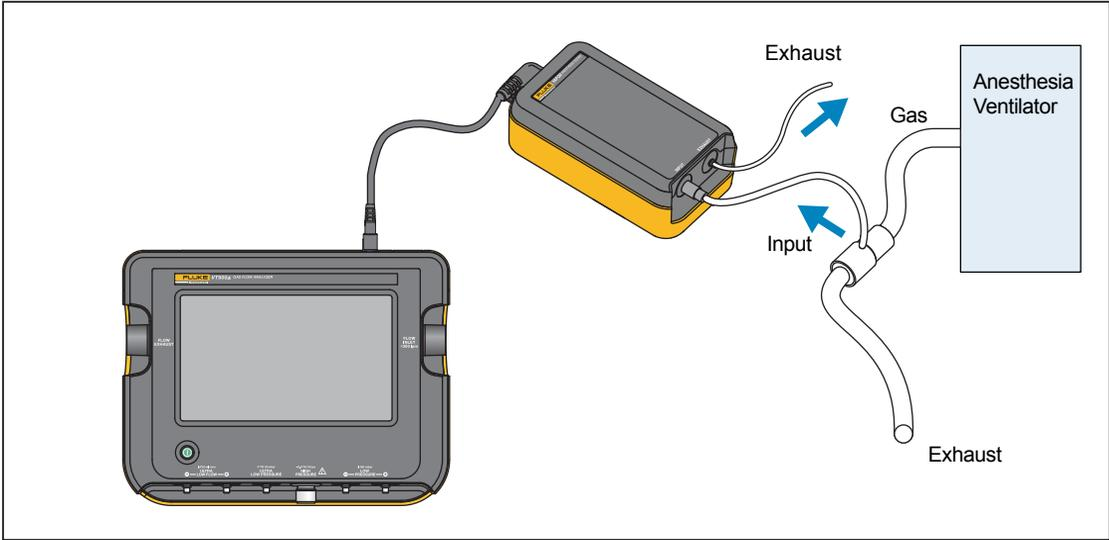

Figure 4. Anesthesia Gas Connections
VAPOR connections are shown in Figure 4.
1. Make these connections to VAPOR (see Figure 4):